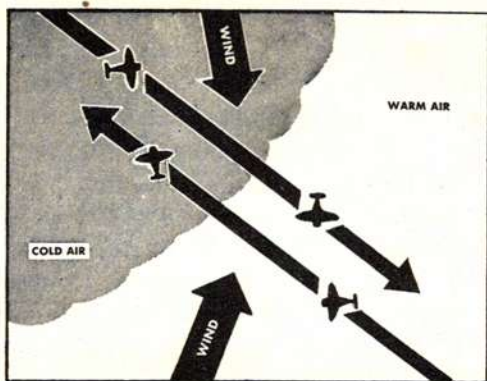

Figure 4-5-3. Make a drift correction to the right when crossing a front.
(2) When your free-air temperature gage shows a rise or fall, you have crossed the front. Make a drift correction to the right. (See fig 4-5-3.)
(3) Once you have entered the cold front, do not turn around because of turbulence, rain, or hail. You will merely have to fly through the same conditions twice and you may become hopelessly lost.